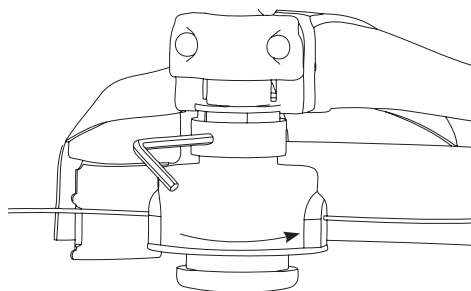

Fig.30
11. Insert allen key into hole tighten by turning body as shown (Fig. 30).